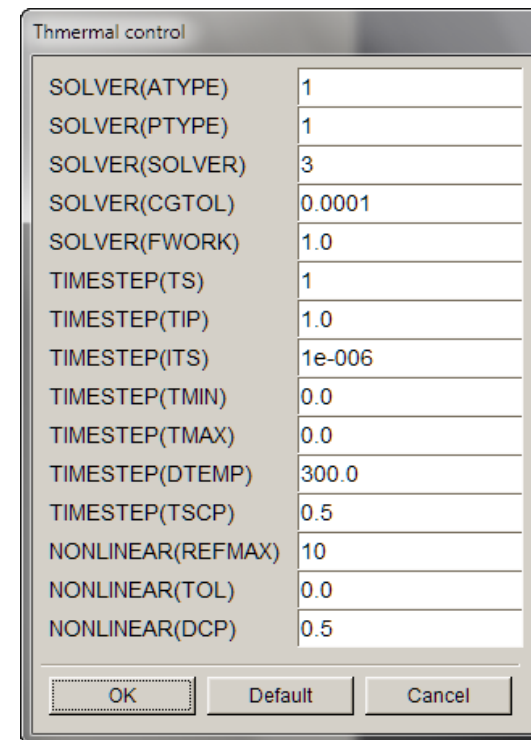

Figure 47
3. Click **Advanced** to define all parameters illustrated in Figure 47.